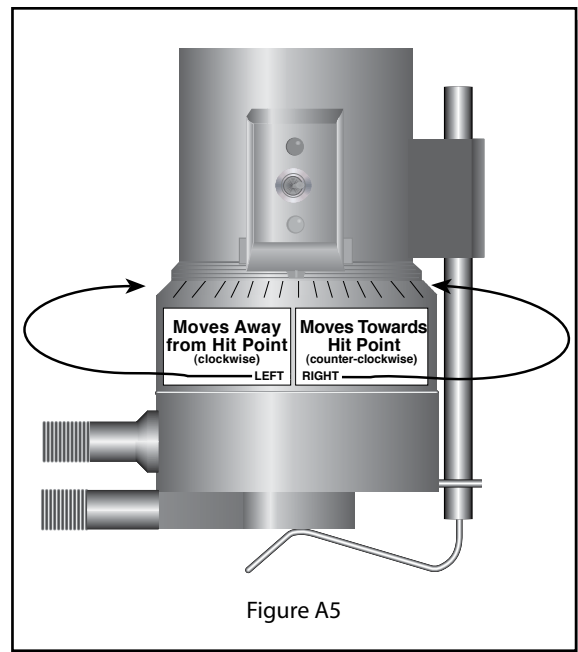

Figure A5
2. If the contact light (yellow) is illuminated, turn the micrometer adjustment ring clockwise (as you look down on the instrument) until the light is no longer illuminated (see **Figure A5**).